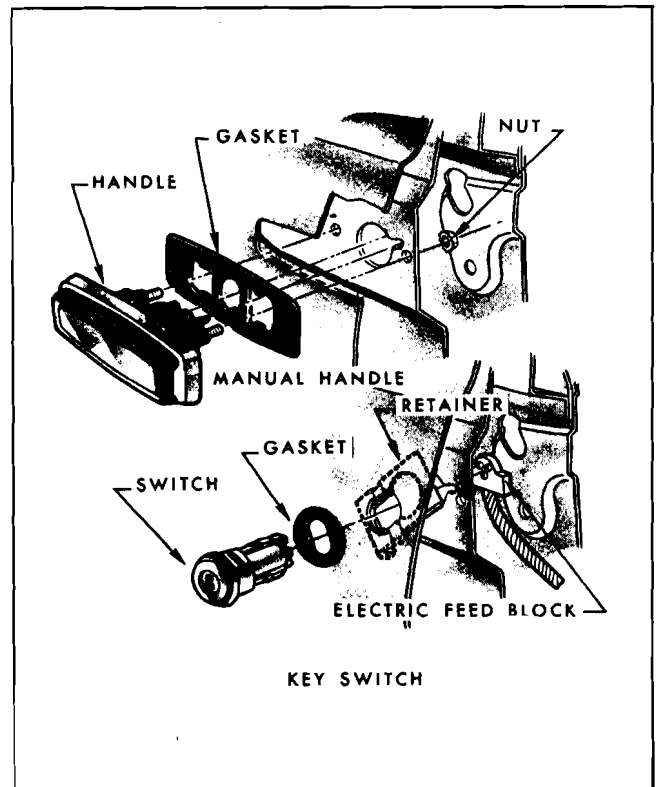

Fig. 9-45—Tail Gate Outside Handle Assemblies
3. On electric styles, remove tail gate window regulator. Disengage key switch retainer and disconnect wire harness from connector on escutcheon (Fig. 9-45).